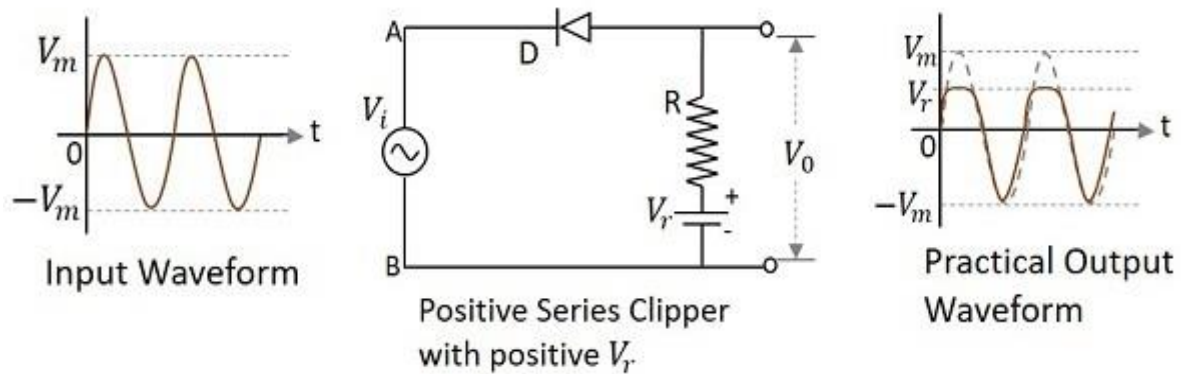

Figure 13.1: Circuit diagram of Positive series Clipper
13.1 Draw electronic circuit diagram of a Positive Series Clipper as shown in Figure 13.1